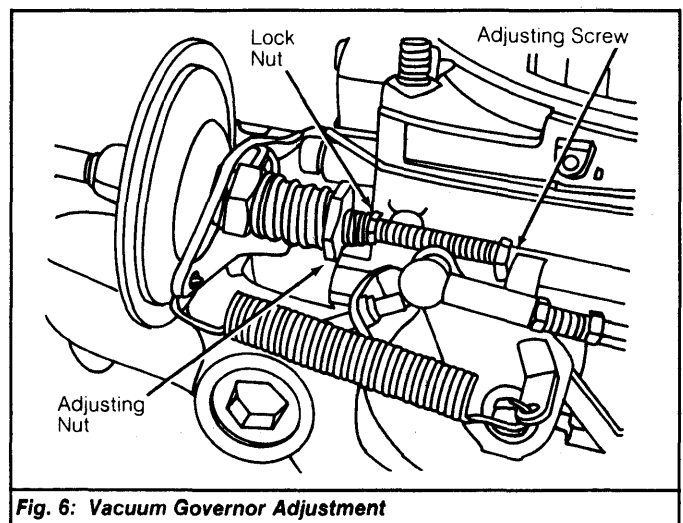

Fig. 6: Vacuum Governor Adjustment
2) Place transmission in gear and check idle speed. Speed should be 600-700 RPM. If required, set compression spring to this speed by turning adjusting nut. *See Fig. 6.*